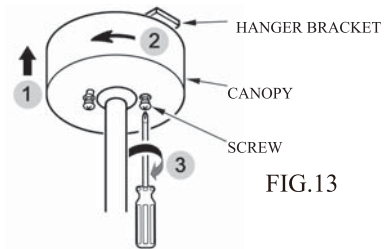

FIG.13
4. Mount the canopy on the hanger bracket and tighten the screws. ( See Fig.13 )